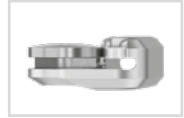

fig. 11
- 8 Make sure that there is no opening left between the cover plate and the joint's upper part (fig. 11).